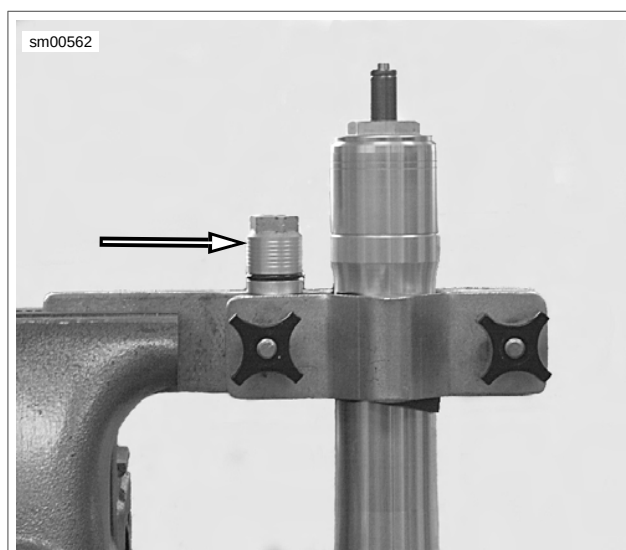

Figure 2-75. Removing Preload Adjuster
4. See Figure 2-75. Remove preload adjuster by turning counterclockwise.